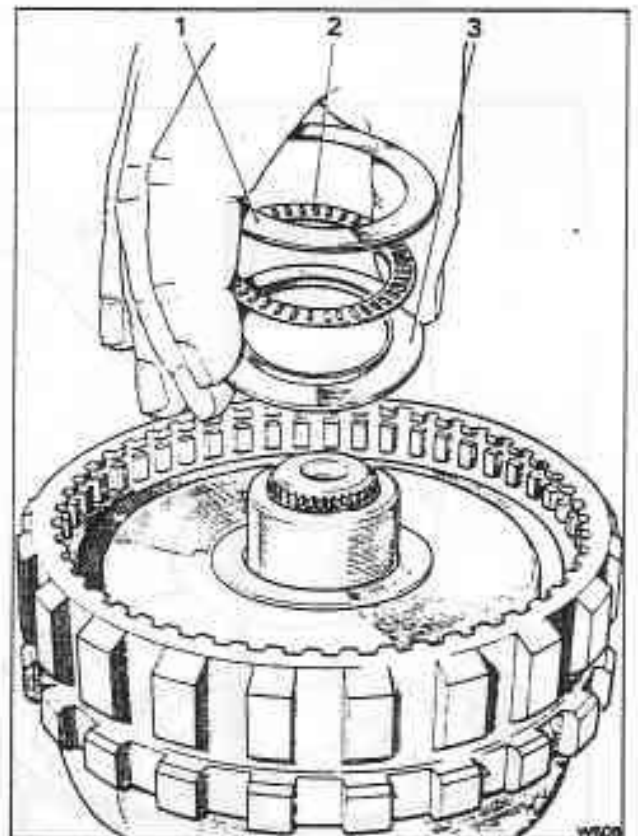

Fig. T19-16 Fitting the races and thrust bearing to the outer face of the rear internal gear
9. Fit the races and thrust bearing onto the outer face of the rear internal gear, retaining them with a smear of petroleum jelly. The small diameter (flanged I/D) race must be fitted first with the flange uppermost (see fig. T19-16).